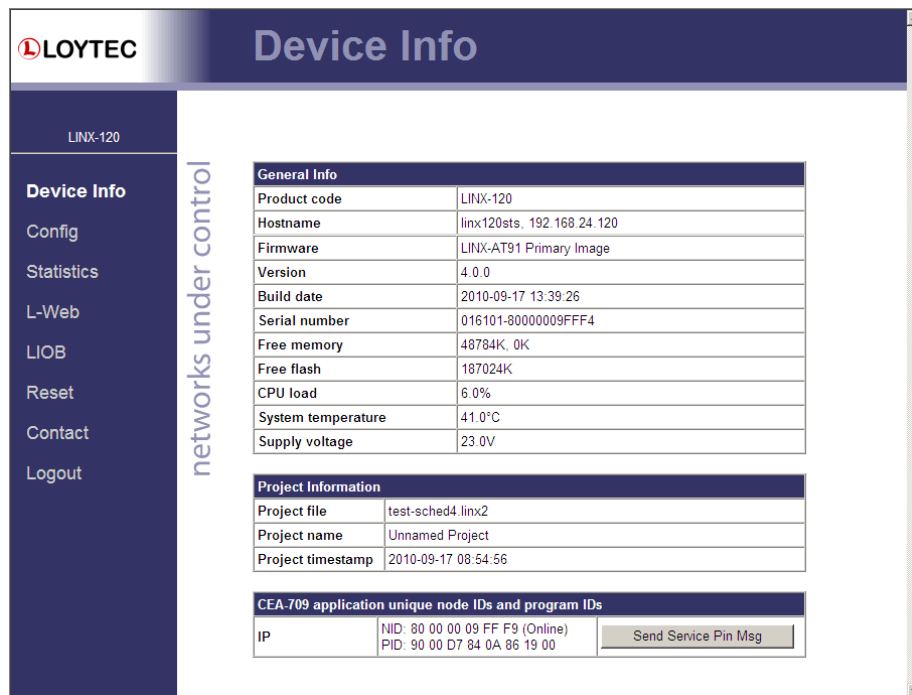

Figure 36: Device Information Page.
5. The device information page should appear as shown in Figure 36.